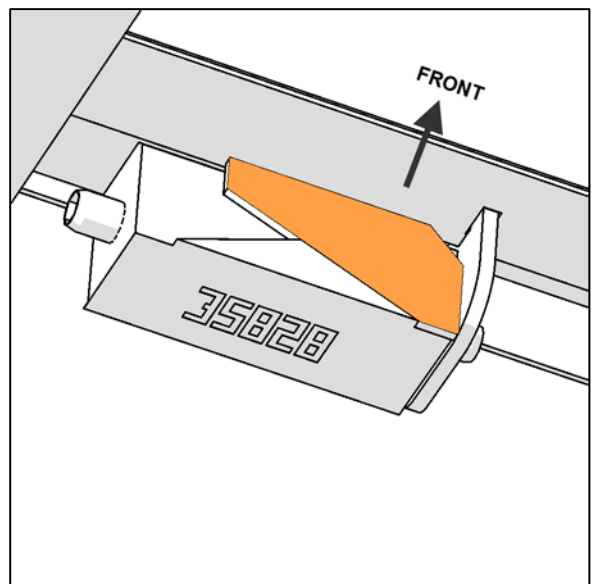

Figure 11
20. Place another gusset in the front curbside position of the jig. (Fig. 11)